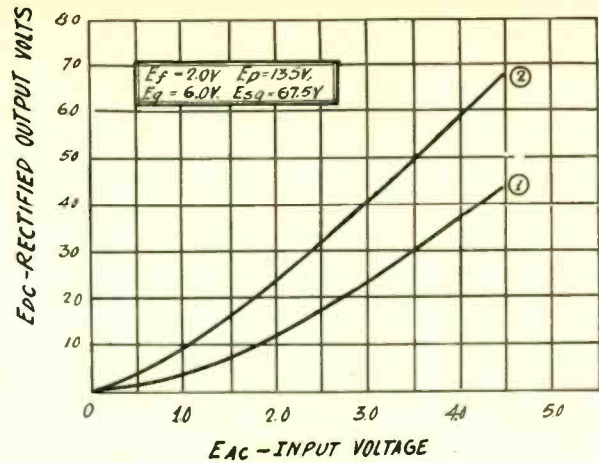

Fig. 903
Such curves are given in Fig. 903 for two different load resistances, (1) 75,000 ohms and (2) 200,000 ohms. The conditions of operation of the tube common to the two cases are given in the box in the upper left corner.